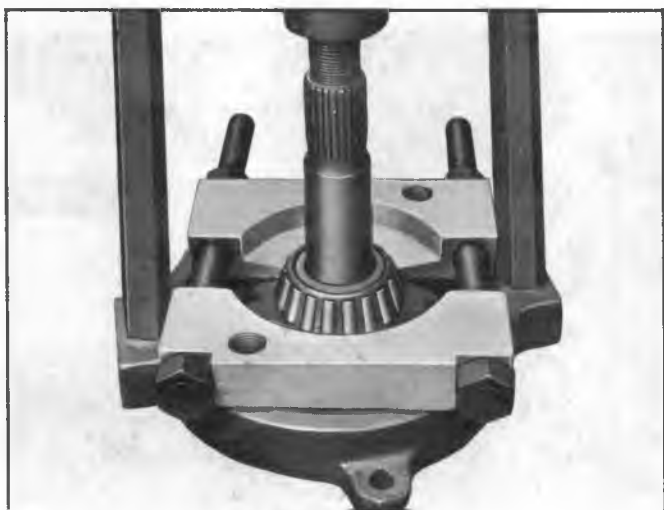

Fig. 12C--Removing Pinion Rear Bearing
3. Remove pinion rear bearing inner race and roller assembly using Press Plates J-9771 in Holder J-0358-1 as shown in Figure 12C. Remove and discard shim between bearing and gear head.